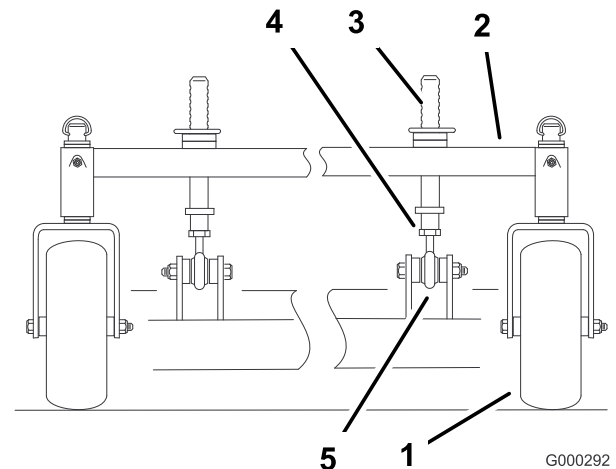

Figure 72
1. To change the front-to-rear pitch, the front height-of-cut posts can be adjusted (Figure 72).
2. To raise the front of the deck, loosen jam nut and rotate the front pin clockwise (Figure 72).
3. To lower the front of the deck, loosen jam nut and rotate the front pin counter clockwise (Figure 72).
6. Tighten the jam nuts (Figure 72).